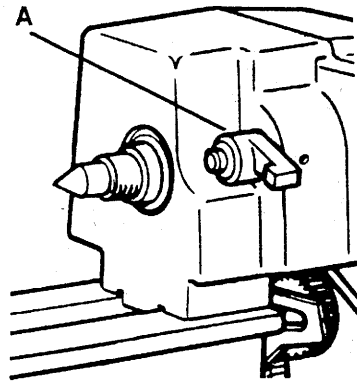

FIGURE 8
- Move back gear lever (A Figure 8), on rear of headstock, up to engage gears. It may be necessary to rotate pulley by hand so gears will mesh.
- Move back gear lever (A Figure 8) down to disengage gears.